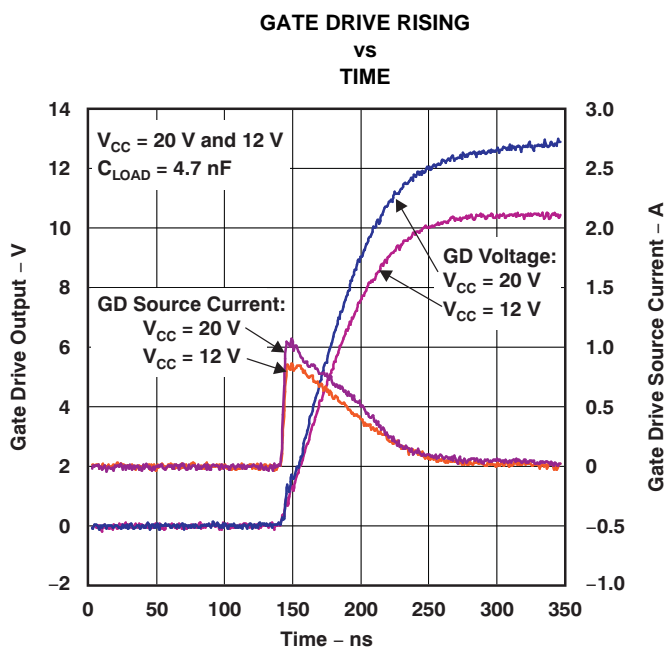
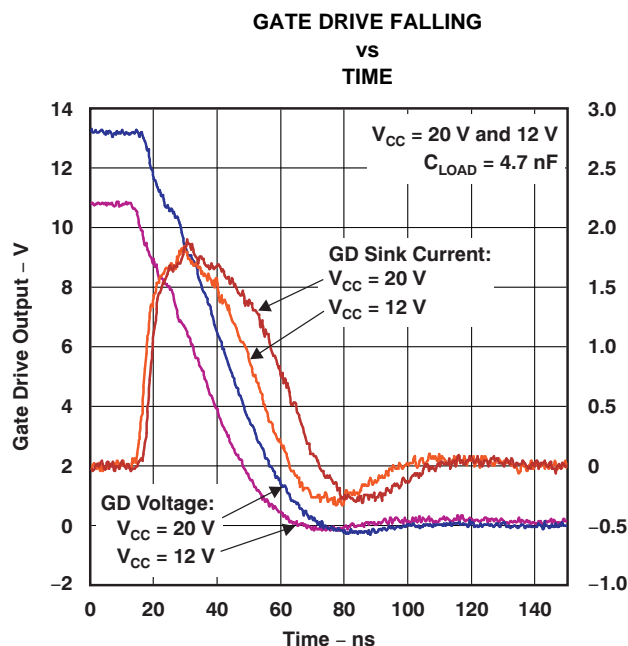
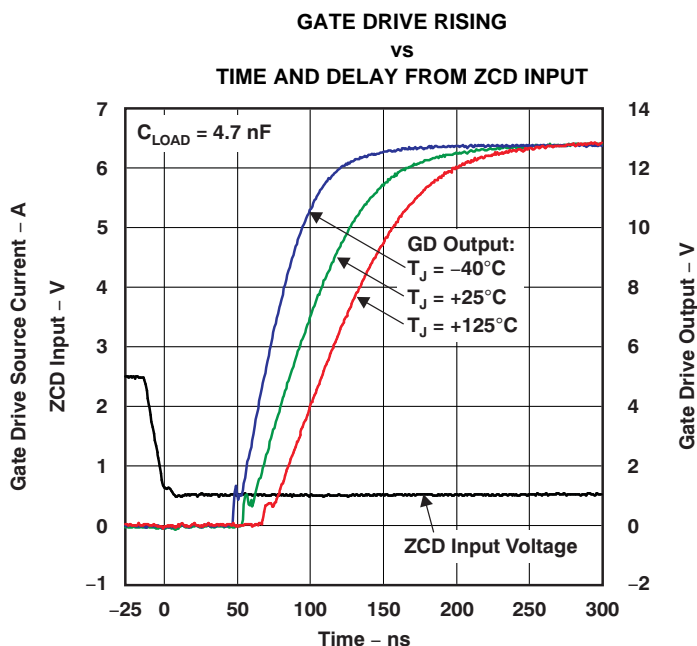
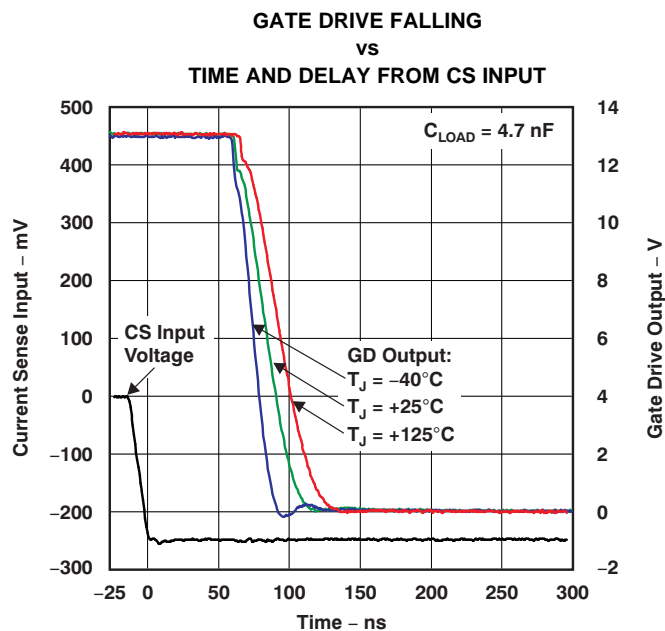

Figure 12.
Figure 13.
Figure 14.
Figure 15.
(2) Refer to Figure 12, Figure 13, Figure 14, and Figure 15 in the Typical Characteristics for typical gate drive waveforms.